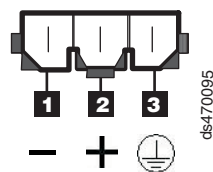

Figure 41. The dc power supply connector - PIN positions
2. Connect the dc power cable to the power supply. See Figure 41 for the dc power supply connector PIN positions.